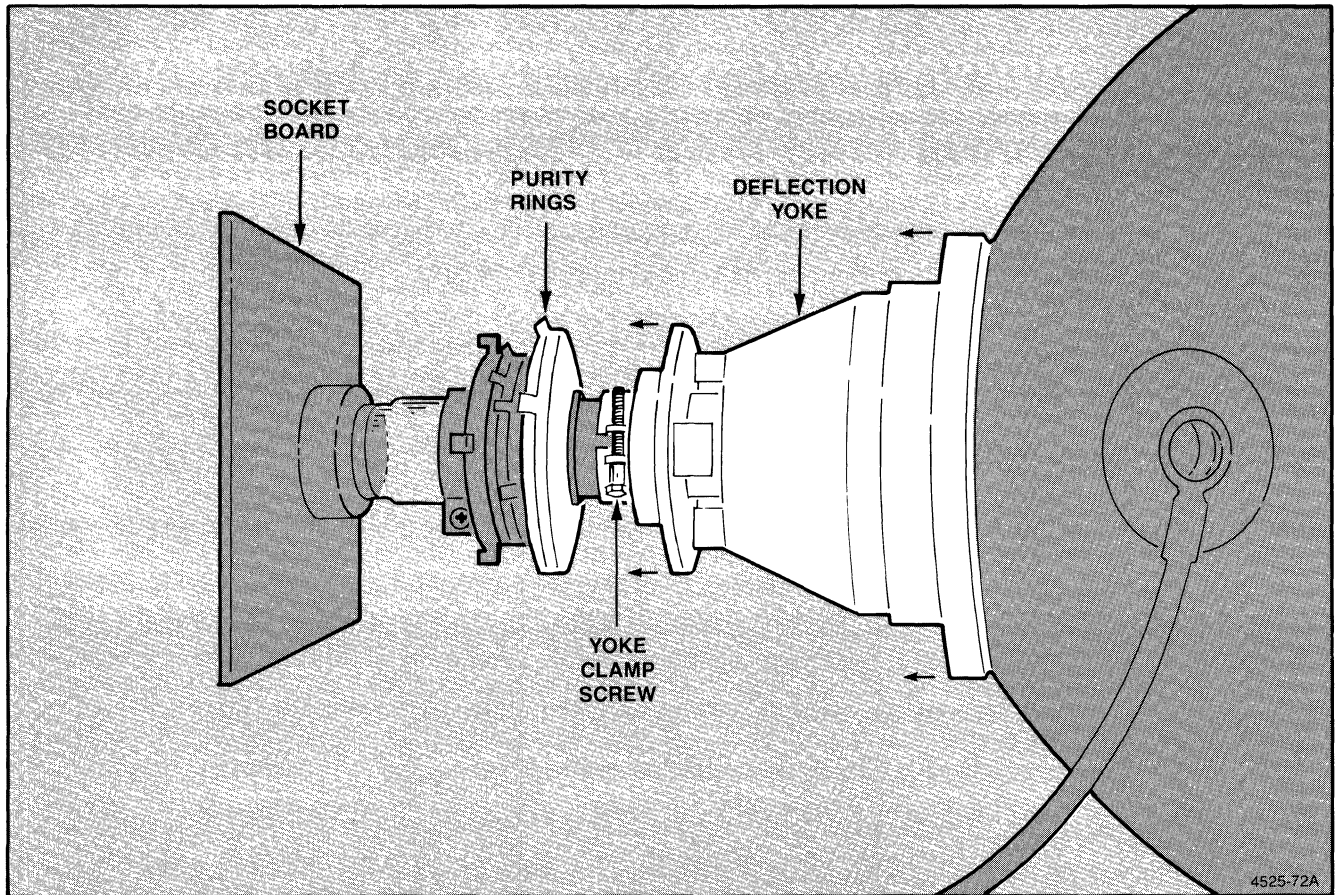

Figure 5-13. Yoke Clamping Screw and Purity Rings.
3. Loosen the deflection yoke (unscrew the clamp) just enough to let it slide toward the rear on the crt neck (see Figure 5-13).
8. Adjust the purity rings (refer again to Figure 5-13) to obtain the purest red ball in the center of the display.